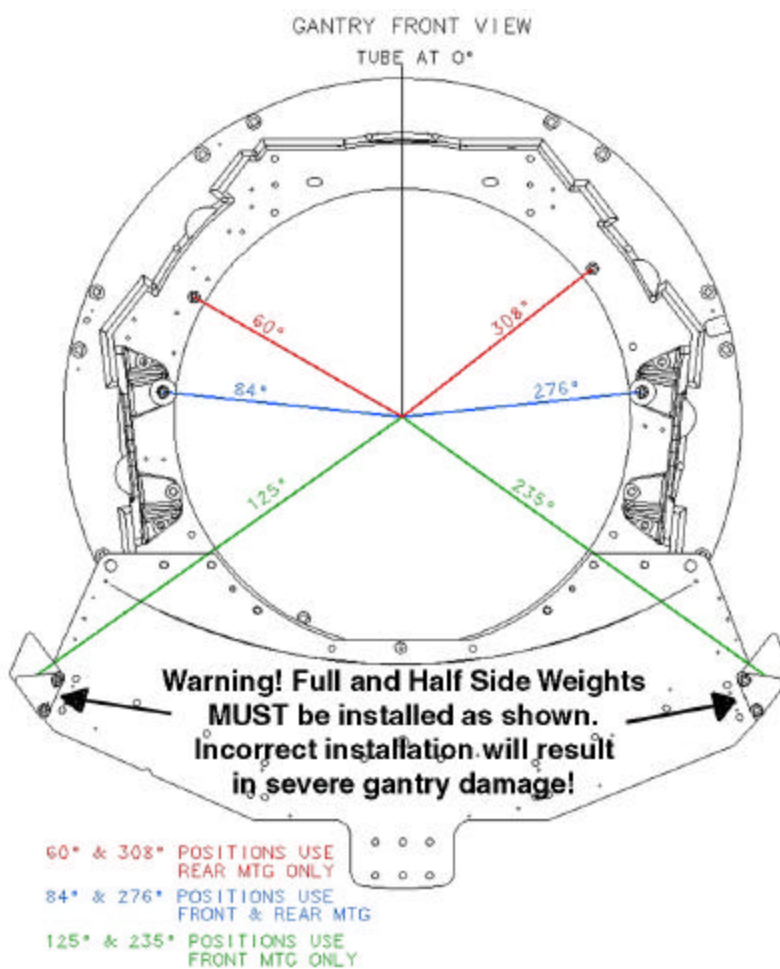

Figure 3
7. Install eight (8) Full Side Trim weights at the 235° location. Refer to Figure 3 for correct orientation of these weights.